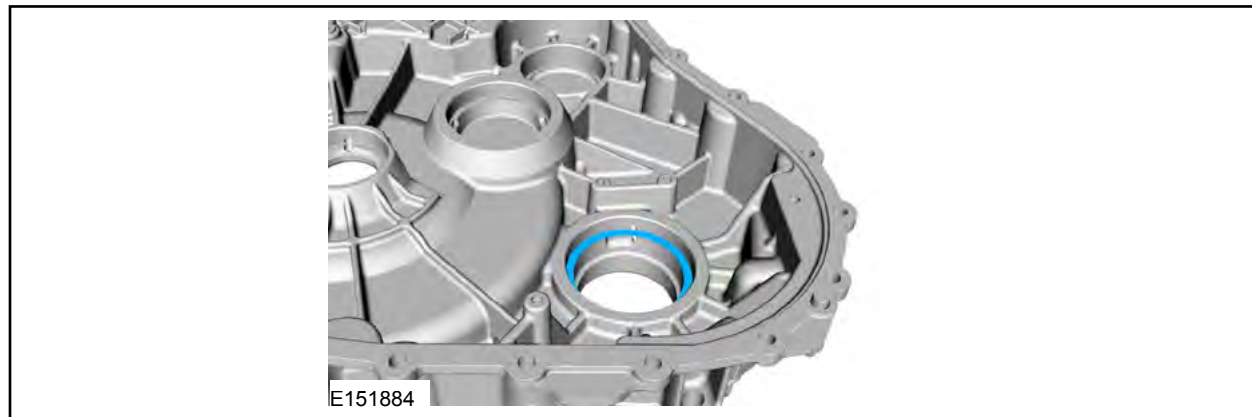

FIGURE 31
26. Install the *new* differential preload shim. See Figure 31.